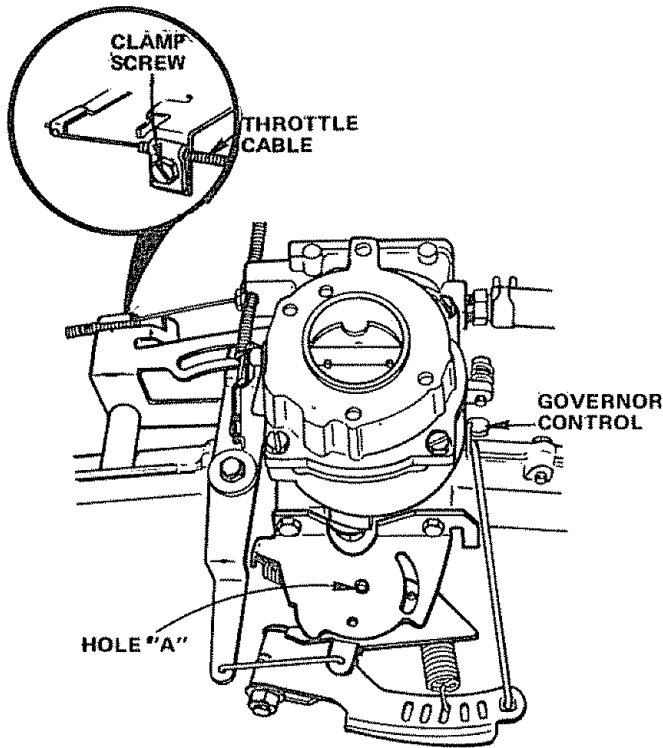

FIGURE 50
- b. Check that two holes "A" line up. If not, loosen Clamp Screw and adjust Throttle Cable until the two holes do line up (Fig. 50 - Inset).
HARD TO START Choked improperly, flooded Engine Clogged Fuel Tank, Fuel Line or Fuel Filter Spark Plug fouled Defective Battery Defective Ignition or loose wiring Water in gasoline or old fuel Improper Carburetor adjustment Poor compression	Place Throttle Control in fast position (Fig. 9) and run starter several times to clean out gas Remove and clean (Fig. 44) Replace Spark Plug and adjust gap (Fig. 42) Recharge or replace Check the wiring and Spark Plug Drain Fuel Tank and Carburetor, use fresh fuel and replace Spark Plug Make necessary adjustments (Fig. 50) Major engine overhaul
ENGINE MISSES OR LACKS POWER Engine overloaded Clogged Fuel Filter Clogged Fuel Tank Partially plugged Air Cleaner Improper Carburetor adjustment Dirty Air Screen Low oil level Spark Plug fouled, improper gap or wrong type Faulty ignition Poor compression Gasoline in oil Dirty Air Cleaner	Shift to a lower gear or reduce load Remove and replace (Fig. 44) Remove and clean Remove and clean (Fig. 36) Make necessary adjustments (Fig. 50) Clean Air Screen, Cylinder Fins (Fig. 41) and Muffler area Add or change oil (Fig. 35) Replace Spark Plugs and adjust gap (Fig. 42) Check Spark Plugs and for any loose wires Major Engine overhaul Drain Engine oil and refill Remove and clean (Fig. 36)
ENGINE OVERHEATS Dirty Air Screen Low oil level Dirty Engine Partially plugged Muffler Improper Carburetor adjustment	Clean Air Screen (Fig. 40) Add or change oil (Fig. 35) Clean Cylinder Fins, rotating Screen and Muffler area Remove and clean Muffler (Fig. 40) Adjust Carburetor (Fig. 50)